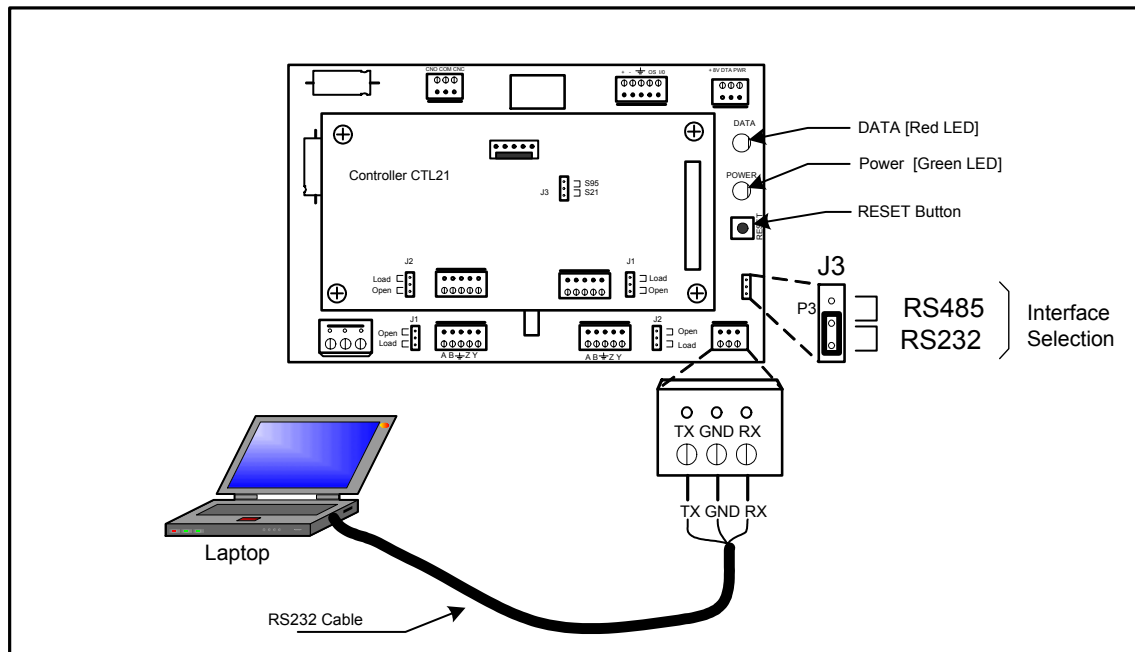

Figure 5-1: Connecting the Reader to a PC/Laptop
For the initial set-up, Lyngsoe recommends using the RS232 connection with a local, mobile PC (Laptop), as shown in Figure 5-1 below.
2. Check whether the relay on the MBD21 board immediately clicks, and the green POWER LED is on (See Figure 5.1).
To force the Reader into the *learning* mode, follow the steps below. (See Figure 5-1).
There are 2 ways to reset the Reader (see Figure 5-1):